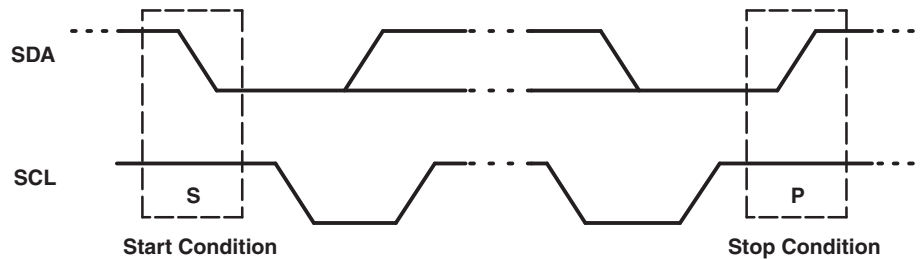

Figure 17. Start and Stop Conditions
Both data and clock lines remain high when the bus is not busy. A high-to-low transition of the data line while the clock is high is defined as the Start condition (S). A low-to-high transition of the data line while the clock is high is defined as the Stop condition (P) (see Figure 17).